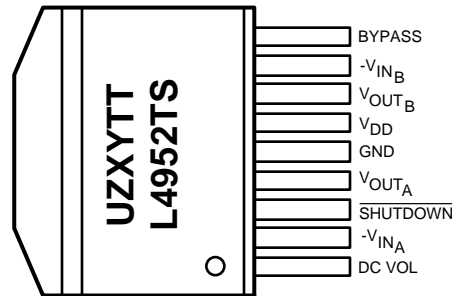

Figure 1. Top View
- (1) All voltages are measured with respect to the GND pin, unless otherwise specified.
- (2) *Absolute Maximum Ratings* indicate limits beyond which damage to the device may occur. *Operating Ratings* indicate conditions for which the device is functional, but do not guarantee specific performance limits. *Electrical Characteristics* state DC and AC electrical specifications under particular test conditions which guarantee specific performance limits. This assumes that the device is within the Operating Ratings. Specifications are not guaranteed for parameters where no limit is given, however, the typical value is a good indication of device performance.
- (3) The maximum power dissipation must be derated at elevated temperatures and is dictated by  $T_{JMAX}$ ,  $\theta_{JA}$ , and the ambient temperature,  $T_A$ . The maximum allowable power dissipation is  $P_{DMAX} = (T_{JMAX} - T_A) / \theta_{JA}$  or the given in Absolute Maximum Ratings, whichever is lower. For the LM4952 typical application (shown in Figure 1) with  $V_{DD} = 12V$ ,  $R_L = 4\Omega$  stereo operation the total power dissipation is 3.65W.  $\theta_{JA} = 20^\circ\text{C/W}$  for the TO263 package mounted to 16in2 heatsink surface area.
- (4) Human body model, 100pF discharged through a 1.5k $\Omega$  resistor.
- (5) Machine Model, 220pF–240pF discharged through all pins.